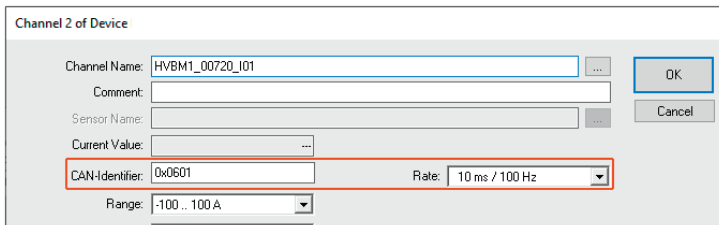

Fig. 6-40: **Channel configuration dialog**, module connected via CAN and **Per channel configuration** enabled
- ☞ Enable the option **Per channel configuration** in the **CAN** section (Fig. 6-40).
- ▶ In the **Channel configuration dialog**, the options **CAN identifier** and **Rate** are accessible (Fig. 6-40).